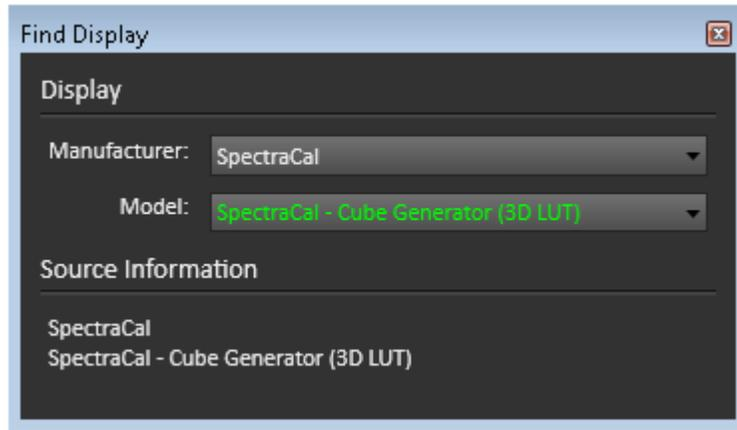

Figure 4. CalMAN Find Display dialog, for connecting to Atomos monitor for display control.
2. On the *Find Display* dialog (Figure 4), under *Manufacturer*, select ‘SpectraCal.’